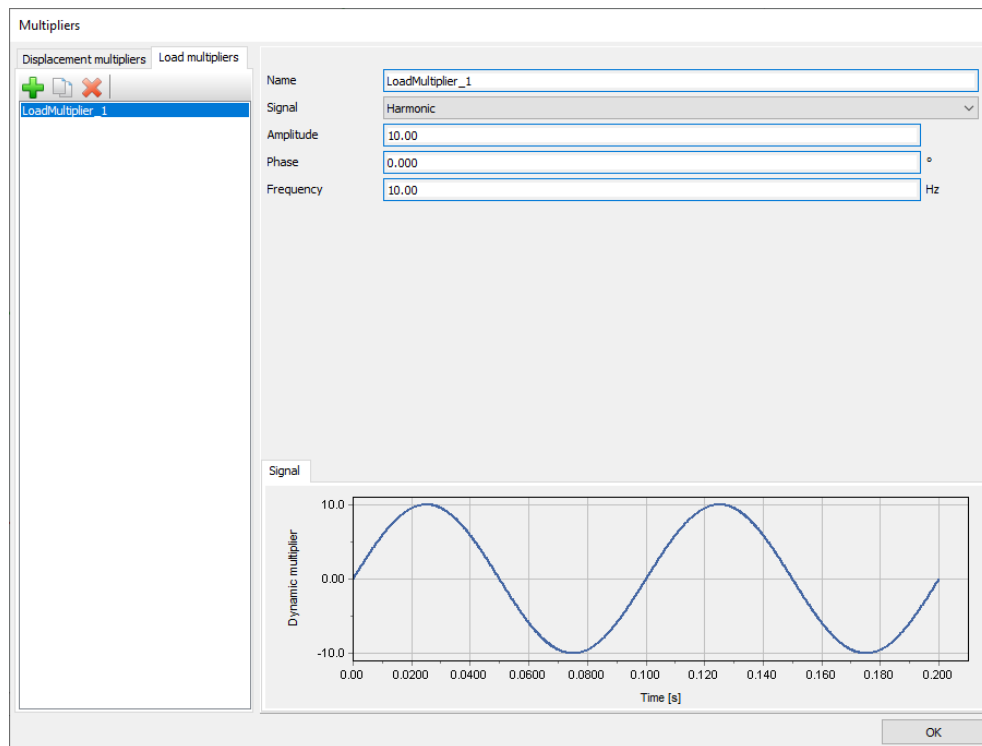

Figure 127: Definition of a Harmonic multiplier
5. Define a **Harmonic** signal with an **Amplitude** of 10, a **Frequency** of 10 Hz and a **Phase** of 0° as shown in Figure 127 (on page 154).